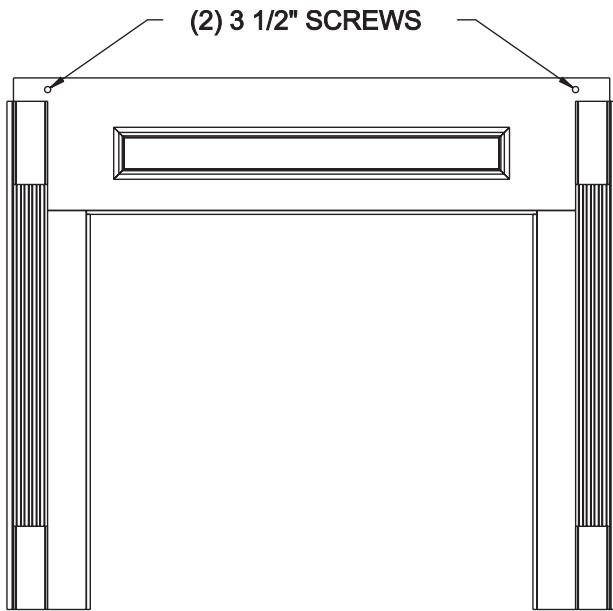

Figure 3
- Attach L to mantel sides with (4) 1-1/4" screws.
- Center mantel around firebox. Attach mantel to wall with (2) 3-1/2" screws.
- Attach mantel sides to base or floor with (2) 1-1/4" screws (See Figure 3).